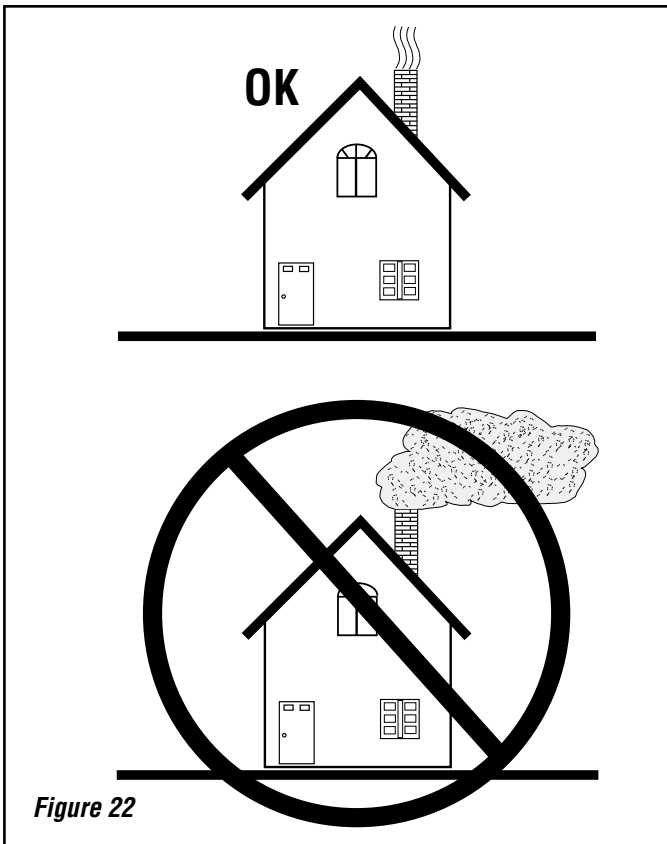

Figure 22
6. Go outside and check your chimney. More than a very small amount of smoke indicates wasted heat, creosote build up and pollution (*see Figure 22*).